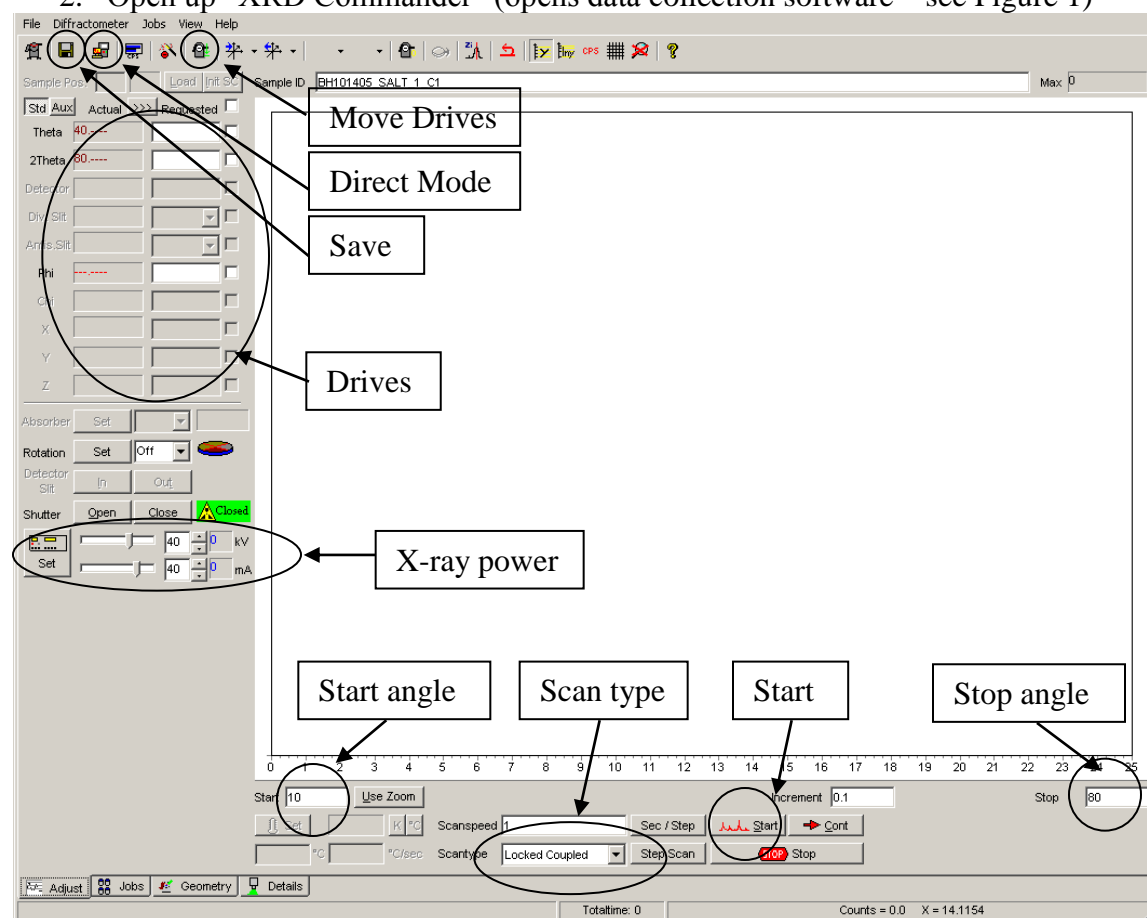

Figure 1. XRD Commander. Circled items referred to in SOP.
2. Open up "XRD Commander" (opens data collection software—see Figure 1)
4. Choose scan type "locked coupled" (Figure 1, circled)
- i. Hit "Direct Mode" (Figure 1, circled)
- i. Enter new Z in "Drives" (Figure 1, circled)
- iii. Hit "Move Drives" (Figure 1, circled)
- a. Hit "Save" (Figure 1, circled)
- a. Hit "Direct Mode" (Figure 1, circled)